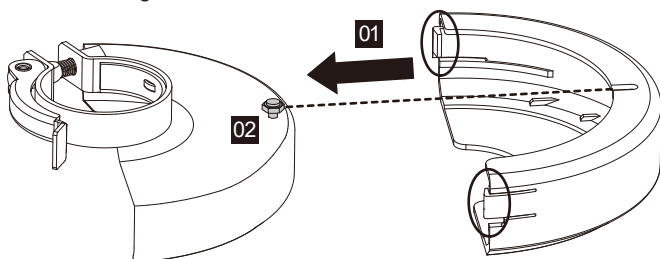

Figure 1-3
- Wheel guard for cutting (See Fig. 1-3 & 1-4)